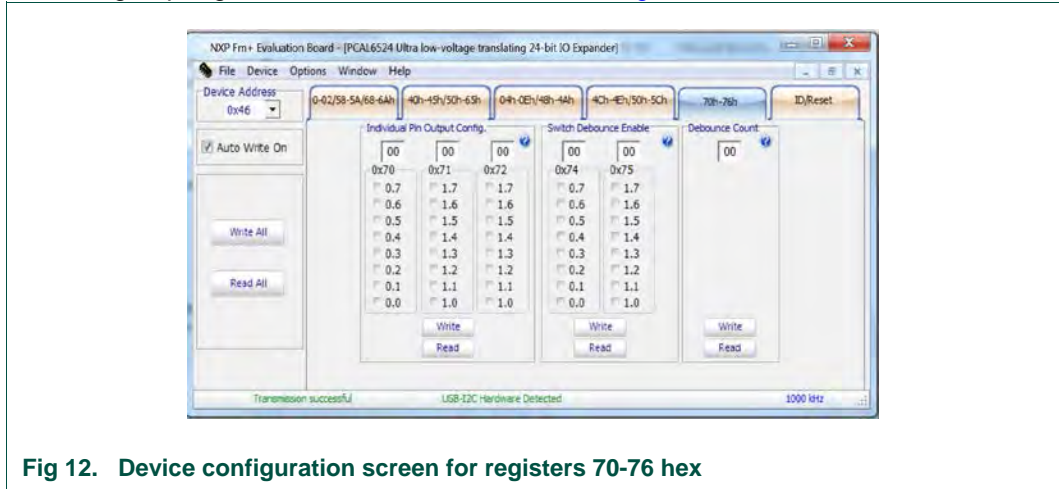

Fig 12. Device configuration screen for registers 70-76 hex
6. Fifth group registers read or write are shown in Fig 12.